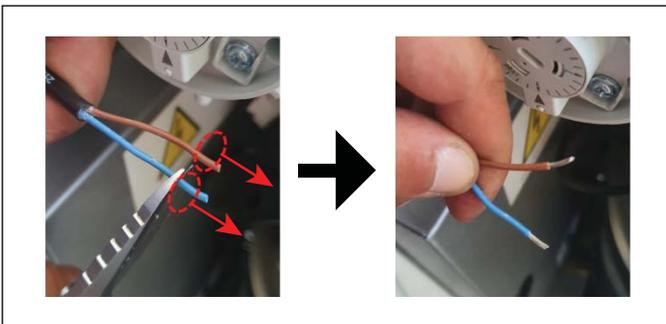

Figure 9
13. Strip the ends of the brown and blue wires (see Figure 9 below).